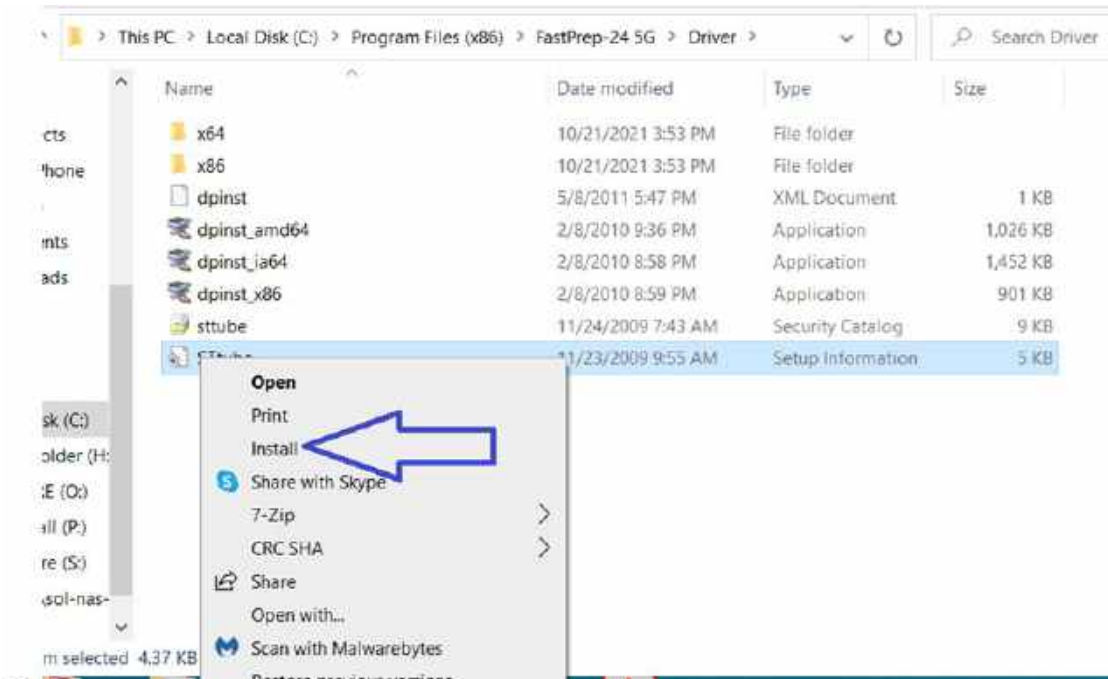

Figure V-30b: Dialog Box Window for the installing application file
- Right click on the STtube file and from the dropdown window select Install (Figure V-30b).